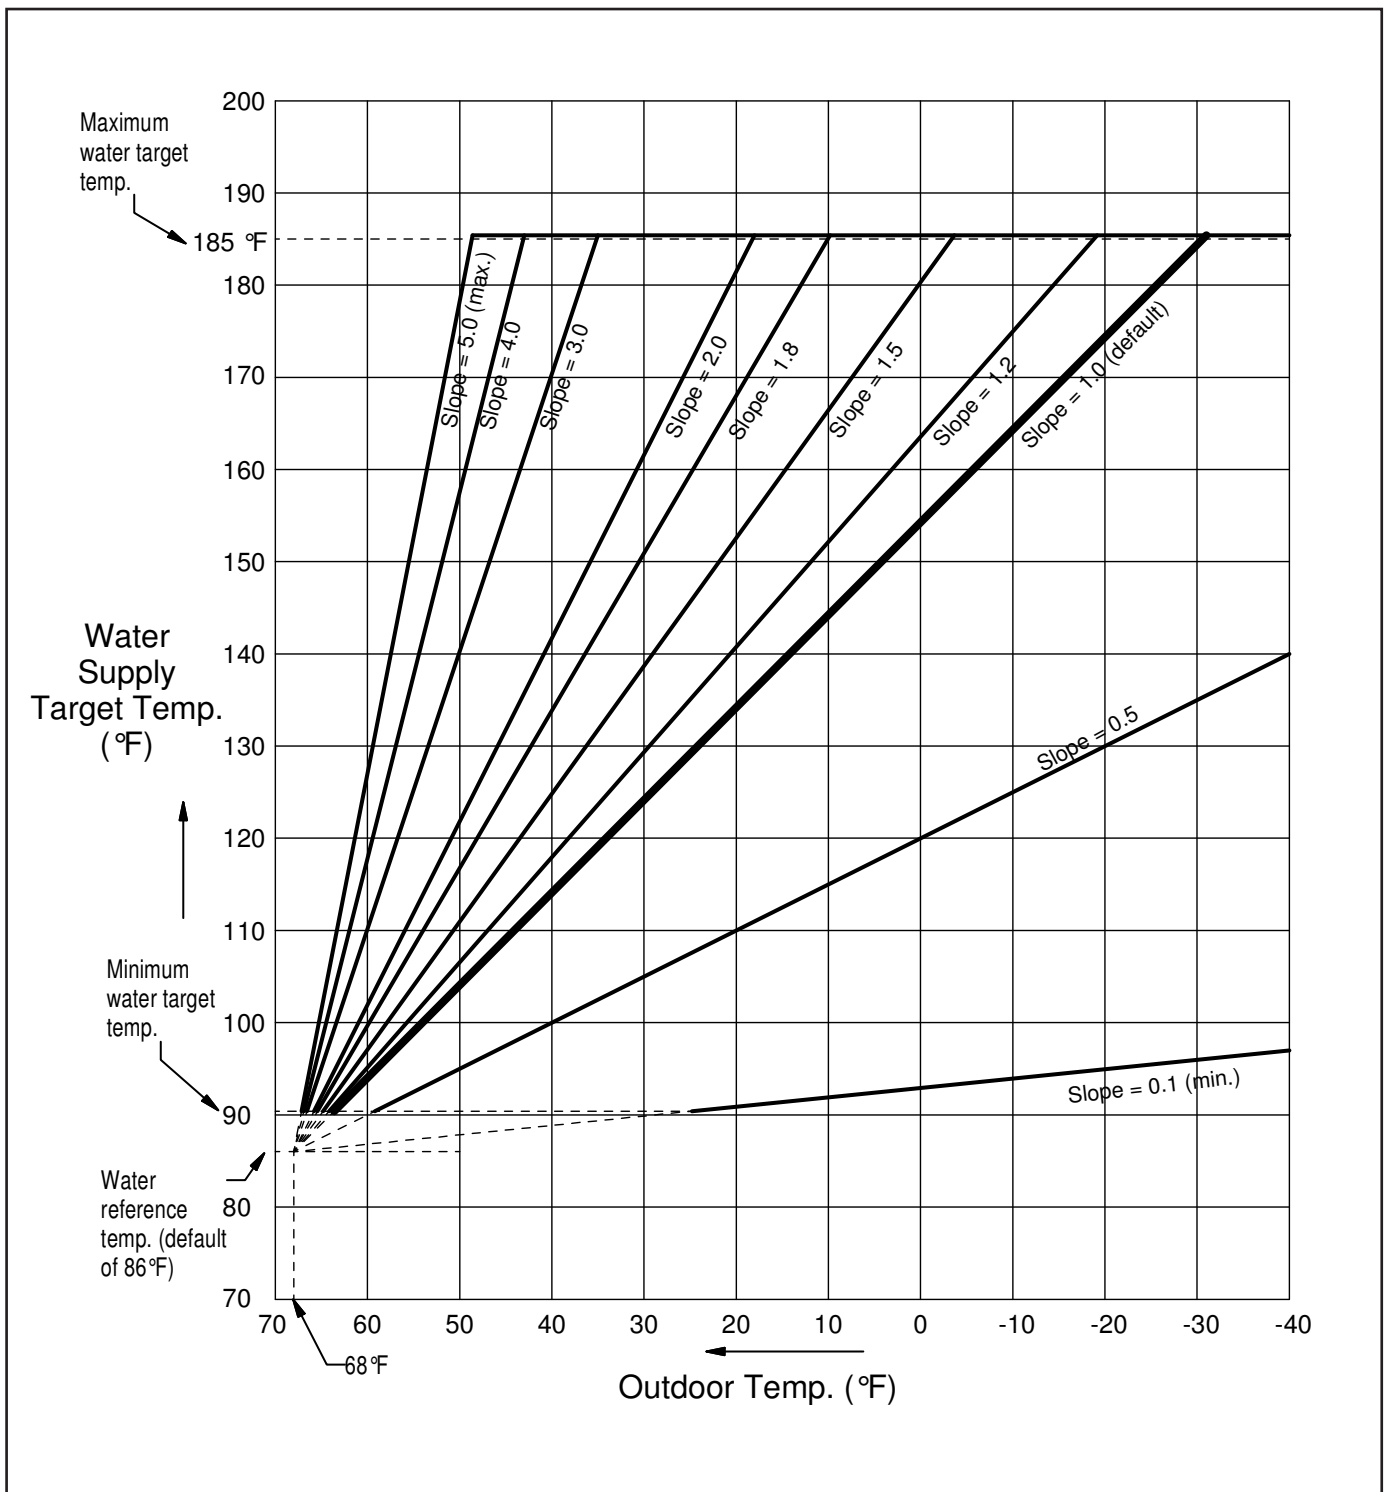

Figure 24. Space Heating mode with outside sensor water set point graph.
3. Weather compensation slope and set point temperature may be changed (if outside sensor is used). (See Figure 24 for graph).